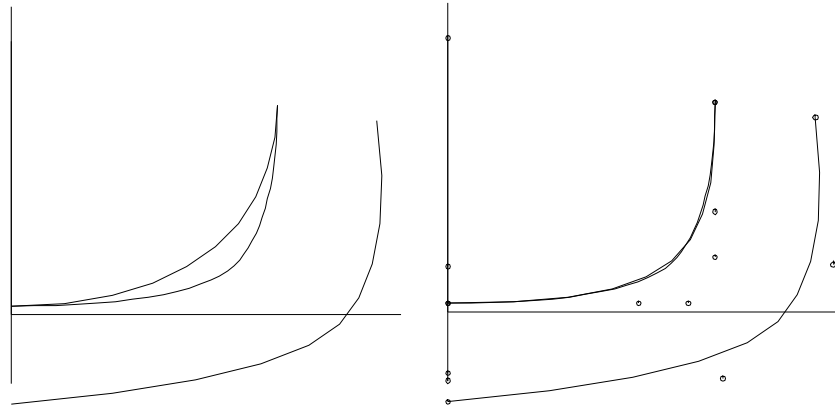

Fig. 42 (Left) and 43 (Right)
- 11  (Show-Hide>Hide Unselected)(Fig. 42).